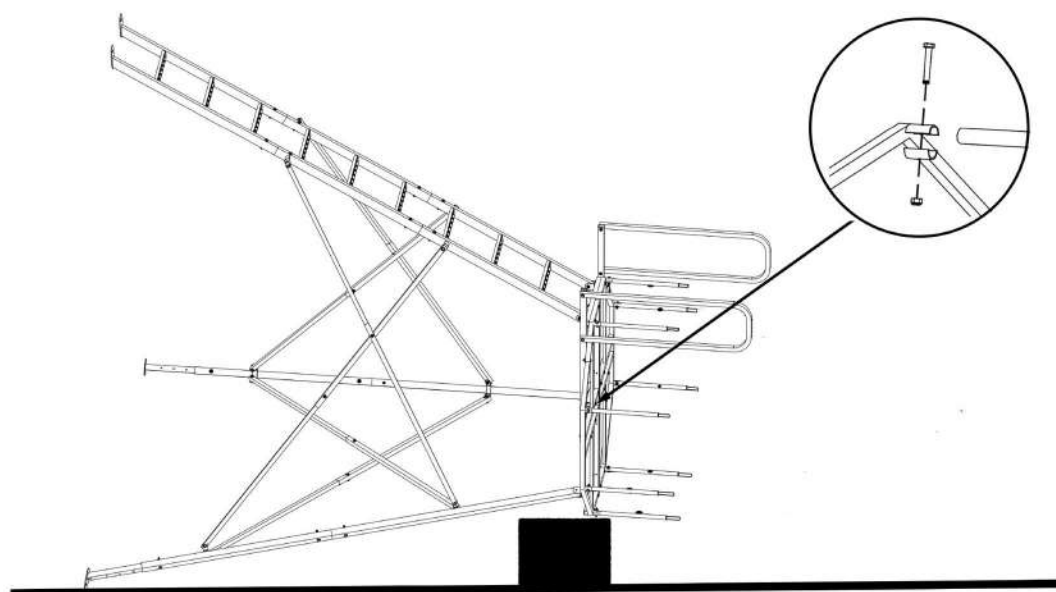

Figure 16.
Step 16. Install all the short uprights to the platform using eight $\frac{1}{4}$ " x 1-3/4" socket head bolts, eight u shaped backer plates and nuts, **no washers under the head of bolt or nuts. Make sure the black versa buttons are facing the inside of the blind as seen in Figure 16.** Tighten all bolts on the platform assembly.